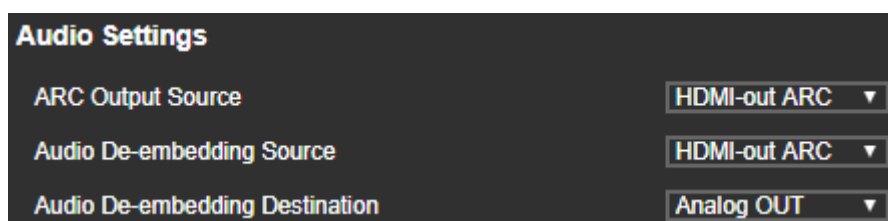

Figure 17: TP-594Rxr Video and Audio Page – Routing ARC to TP-594Rxr Analog Audio
3. Under Audio Settings (Figure 17):